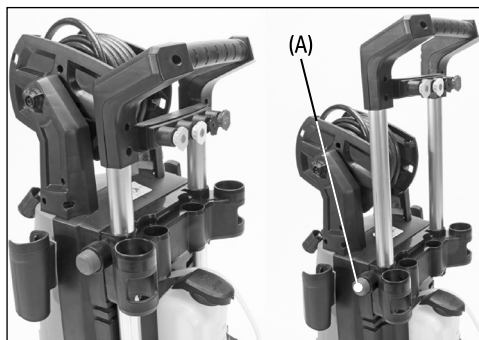

Fig. 11
6.7 Telescopic Handle Adjustment (Fig.11) (98678 only)
- The telescopic handle height can be adjusted by pressing button (A) at the side and moving the handle.